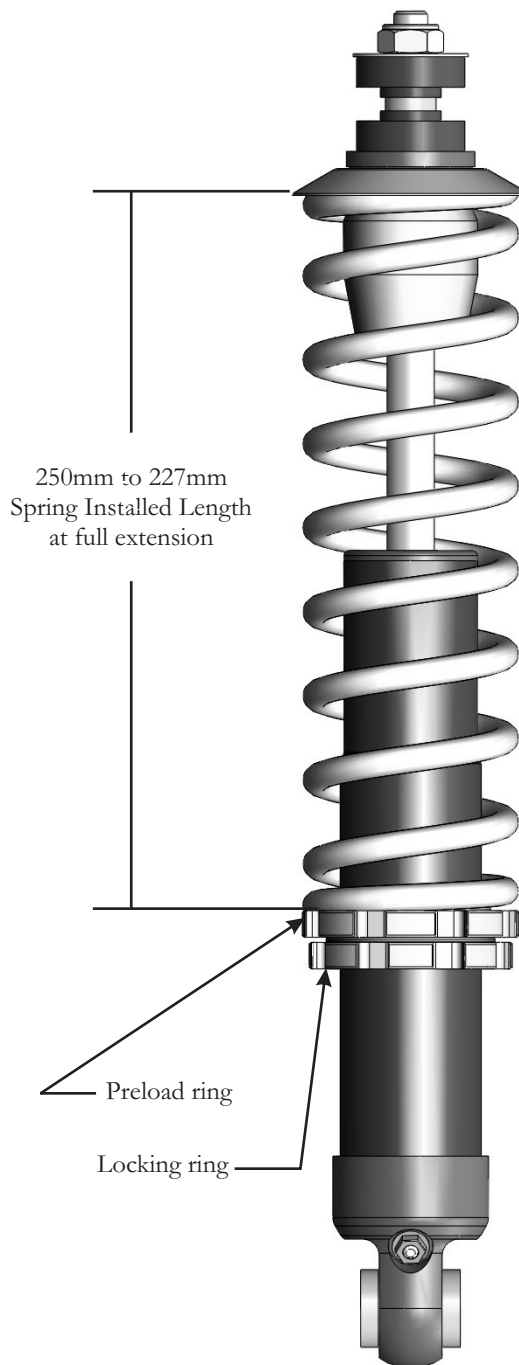

Figure 5
4. Spring pre-load adjustments are made with the supplied preload adjusting wrench by first loosening the lower locking ring, then adjusting the upper preload ring (figure 5). Once the proper preload has been achieved, re-tighten the locking ring against the adjusting ring. With the shock fully extended, the spring installed length must never be adjusted to a length longer than 250mm (9.84") or shorter than 227mm (8.94").